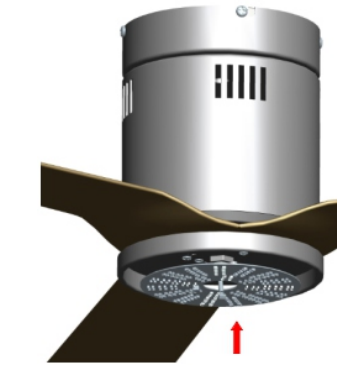

Fig 4.2
4.2 Allow the light wire connector plug to come through the light kit. Install back the light kit and the light kit is magnetically attracted to the pan with the help of magnet. Insert the light wire connector plug to the light kit terminal block as shown in Fig 4.2.